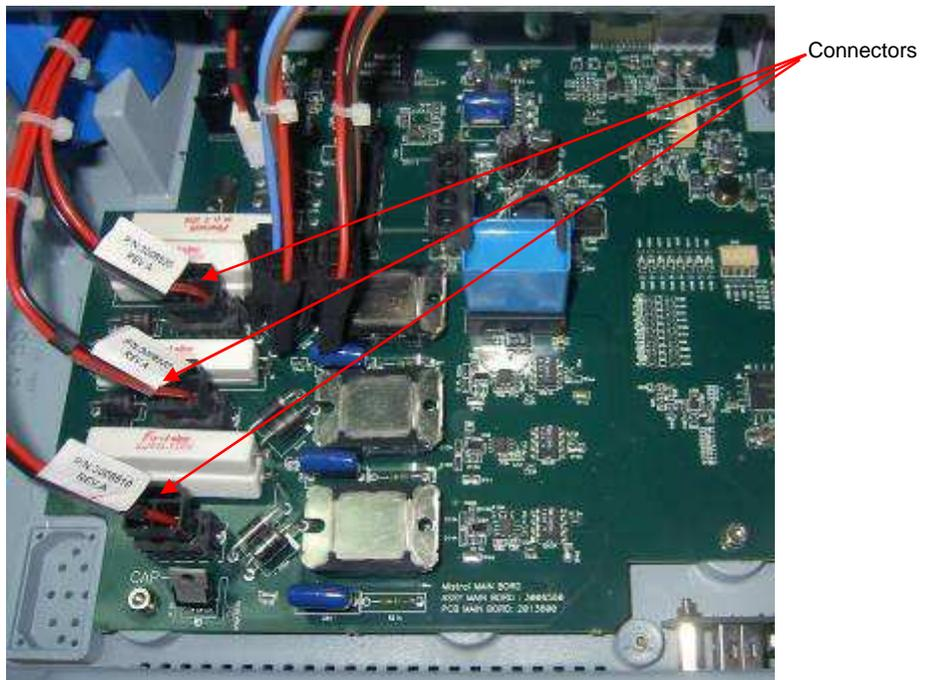

Figure 21: Capacitor
4. Release all connectors to the MB (Figure 21).